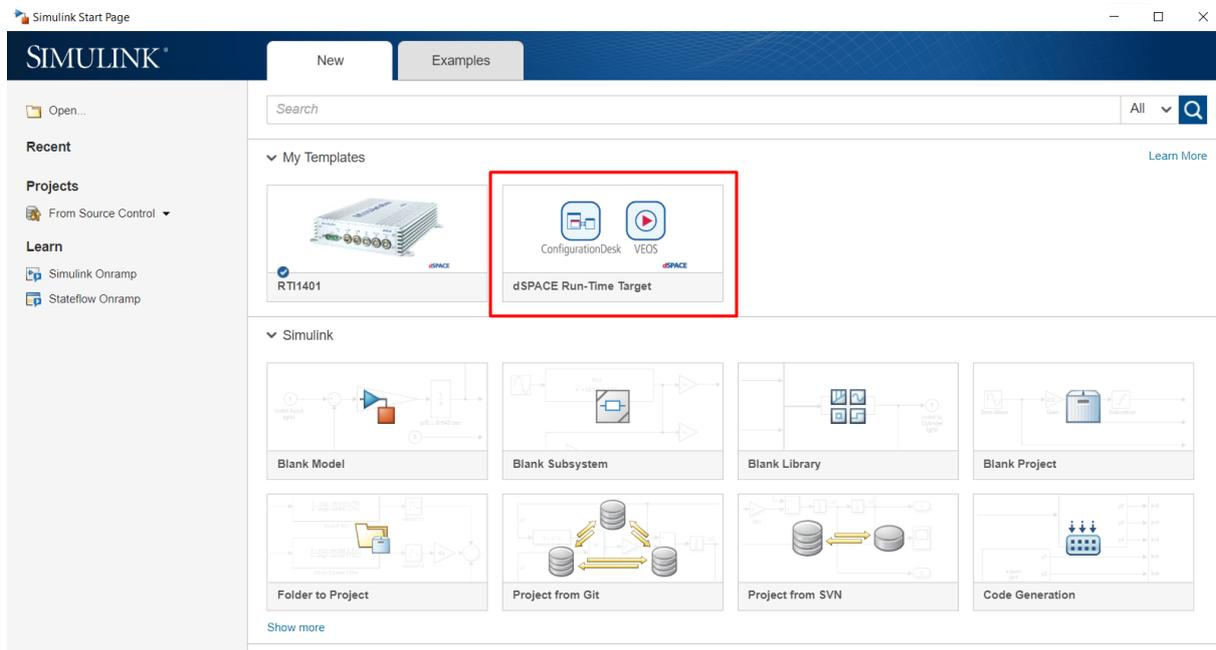

Figure 13.29: Create a Simulink model.
- 1) Create a new Simulink model (henceforth referred to as `dSPACE.slx`) using the dSPACE Run-Time Target template provided by dSPACE and save it in the `BasicExample` folder (see Figure 13.29).